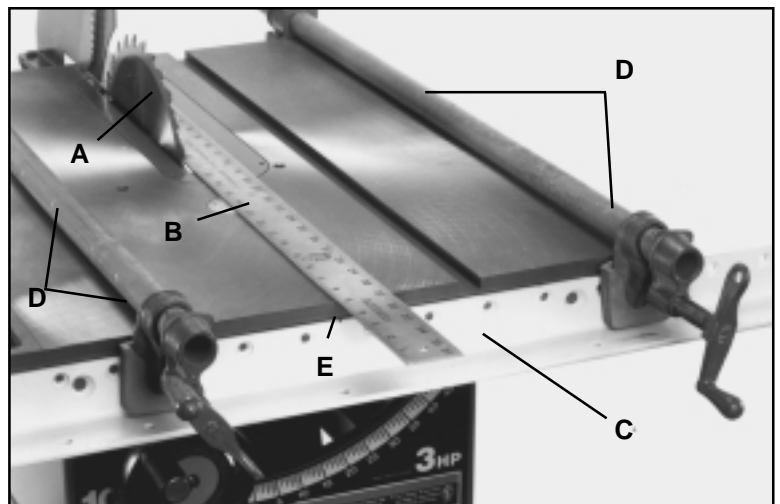

Fig. 7
3. Raise saw blade (A) Fig. 7. Place a straight edge (B) against right side of saw blade extending out over front of saw table as shown. Position front rail (C) against front edge of saw table and lightly clamp in place using bar clamps (D). Align the notch (E) in front rail (C) with right side of saw blade (B) as shown, and tighten bar clamps (D).
4. Figure 7 illustrates the front rail (C) clamped to the front edge of the saw table.